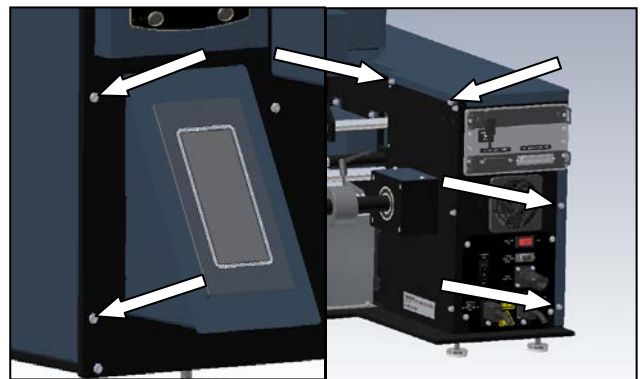

Figure 3-262. Frame Cover Screws
- Remove power from the machine, and remove the outside frame cover (Figure 3-262).